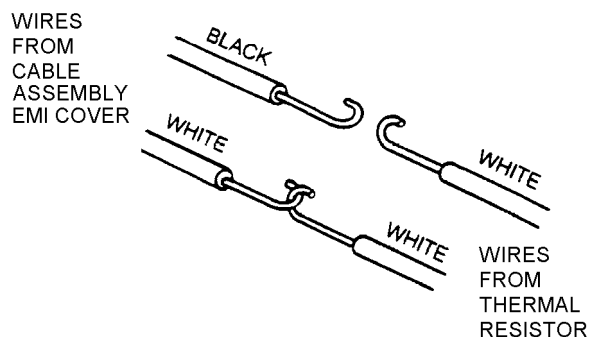

Figure 6-16. Cable Assembly EMI Cover Wires
10. Connect rotary valve electrical connector (4) to cable assembly electrical connector (5).
11. Slide insulation sleeving (P/N M23053/5-109-0), previously installed, over both electrical connectors (4) and (5) and secure by shrinking in place.
12. Apply Krytox 240 AC to preformed packing (10) and install on cable assembly EMI cover (8).
13. Wrap threads of thermal resistor (9) with anti-seize tape and install in inlet filter assembly (7). Torque thermal resistor to 60 to 125 in-lb. Cut lead wires on thermal resistor to 0.5 in.
14. Slide insulation sleeving (P/N M23053/5-103-0) over the BLK and WHT wires protruding from cable assembly EMI cover (8). Slide back until connection is made and wires are soldered.
15. Using mechanical hand wire strippers, strip insulation from BLK and WHT wire ends approx. 3/16 in, also strip the two WHT wire leads extending from the thermal resistor (9) approx. 3/16 inch.
17. (Reference figure 6-16 for wiring connection.) With round nose pliers, form J-hooks on the end of all four wires.